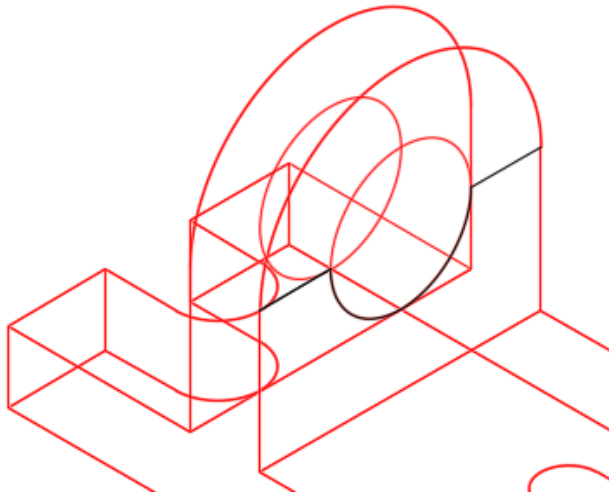

Figure Step 18
Step 18 Draw two construction lines and a construction arc on the bottom half of the circle. (Figure Step 18)